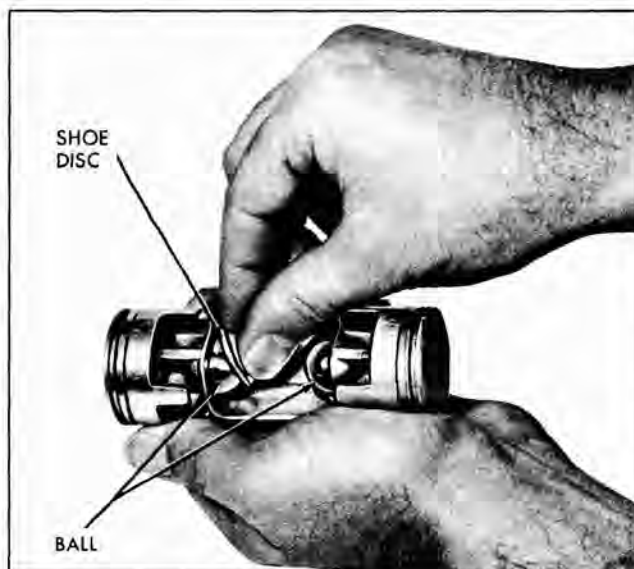

Fig. 5-80 Zero Shoe and Ball at Front of Piston
8. Place a **ZERO** shoe over each ball in **FRONT** end of piston. Front end of piston has an identifying notch in casting web (Fig. 5-80).
9. Place a ball only in rear ball pocket of each of three pistons (Fig. 5-80).